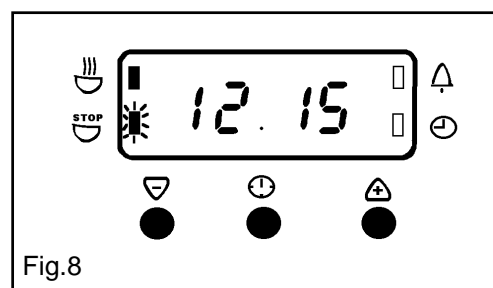

Fig.8
- To set the 'End Time'. Press the Selector Control button until the 'End Time' indicator neon (🛑) flashes. Press the increase control ( + ) until the required stop time is displayed, e.g. 12.15 p.m. as Fig. 8. If necessary press the decrease control ( - ) until the correct time interval is achieved.